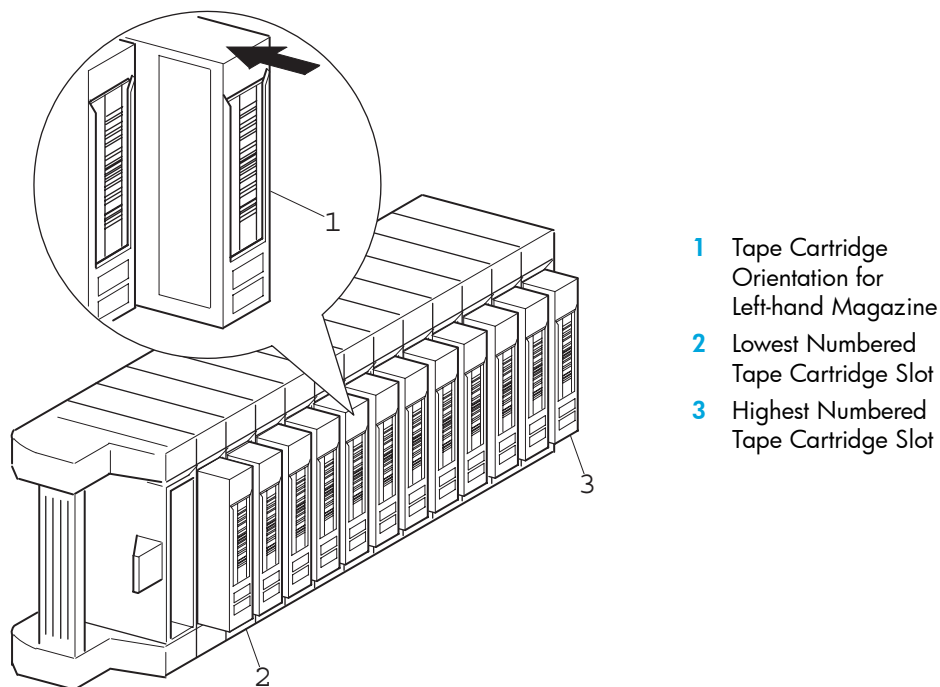

Figure 60 Inserting a tape cartridge (left-hand magazine)
A full left-hand magazine is shown in Figure 60. For two-drive models, the lowest numbered tape cartridge slot ❷ is the one closest to the front of the left-hand magazine. For four-drive models, the lowest numbered tape cartridge slot ❷ is the one closest to the front of the upper-left magazine.
Insert tape cartridges so that the bar code labels are facing outward (see Figure 60).